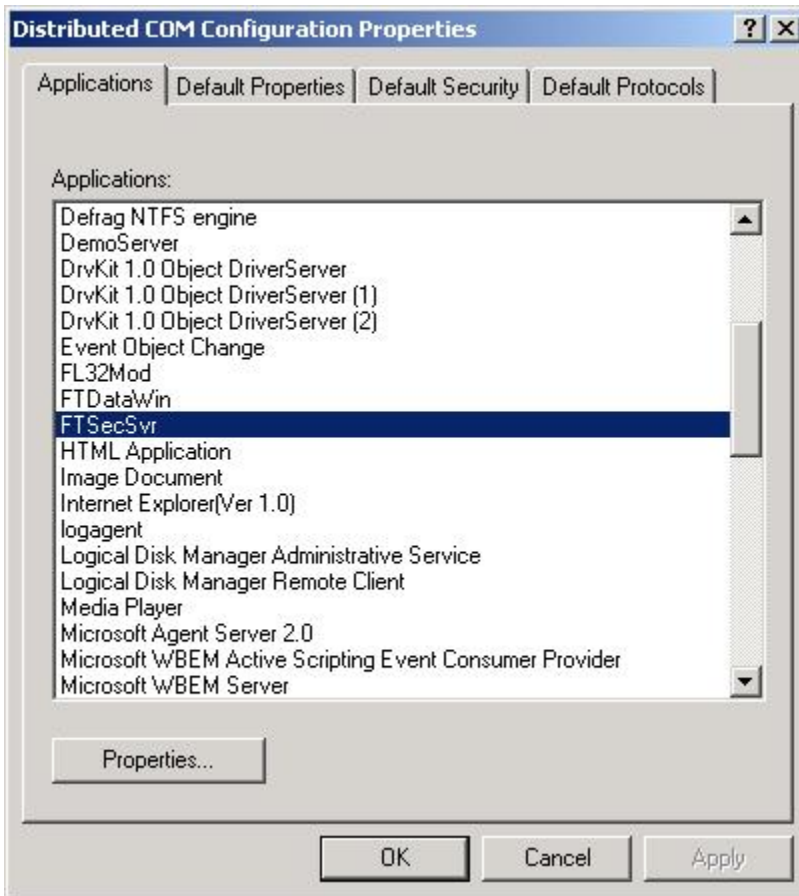

Figure 1.1e
2. Select the Properties button. (See Figure 1.1e)